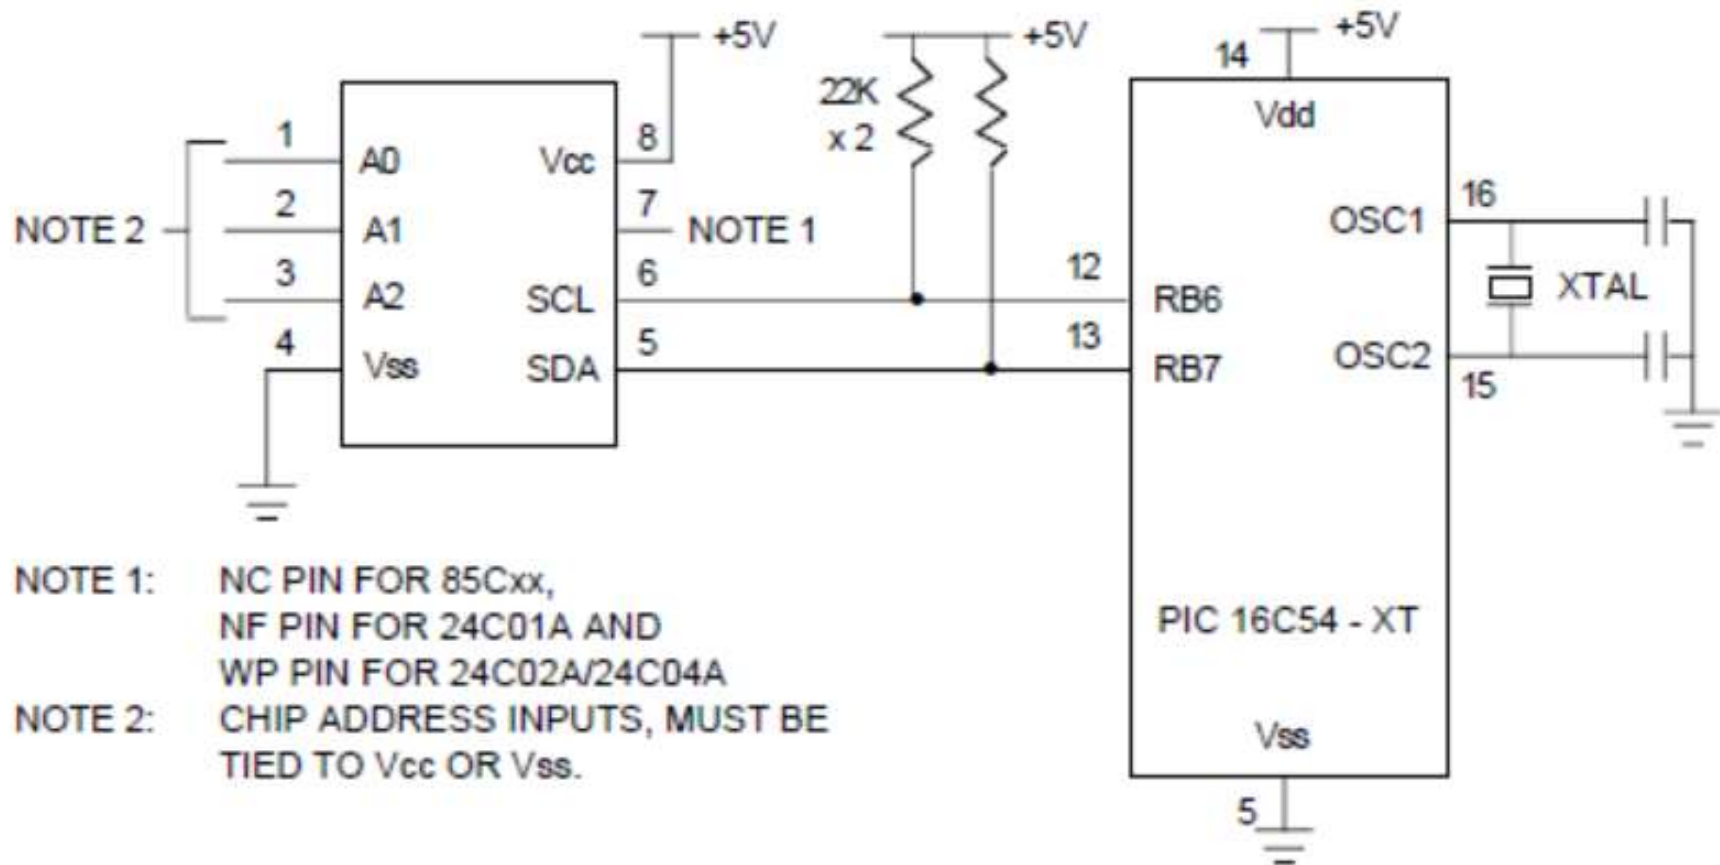

Figure 11: I²C Hardware Connection
- A simple hardware connection is illustrated in Figure 11.